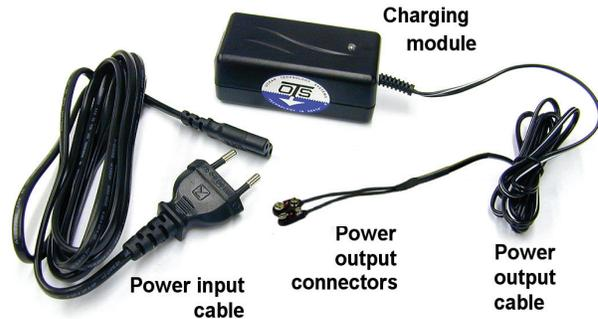

Figure 1: Charging unit and power input cord
The RCS-18 charger consists of the charging module and power output cord as one unit (Fig. 1). The power output connectors are standard battery snaps. A power input cord is provided with your choice of plugs depending on the region of the world where the charger will be used.
1. Connect the *power output connectors* (battery snaps) (Fig. 1) to the communications unit (**charging directions are explained in further detail on the back of this page**).